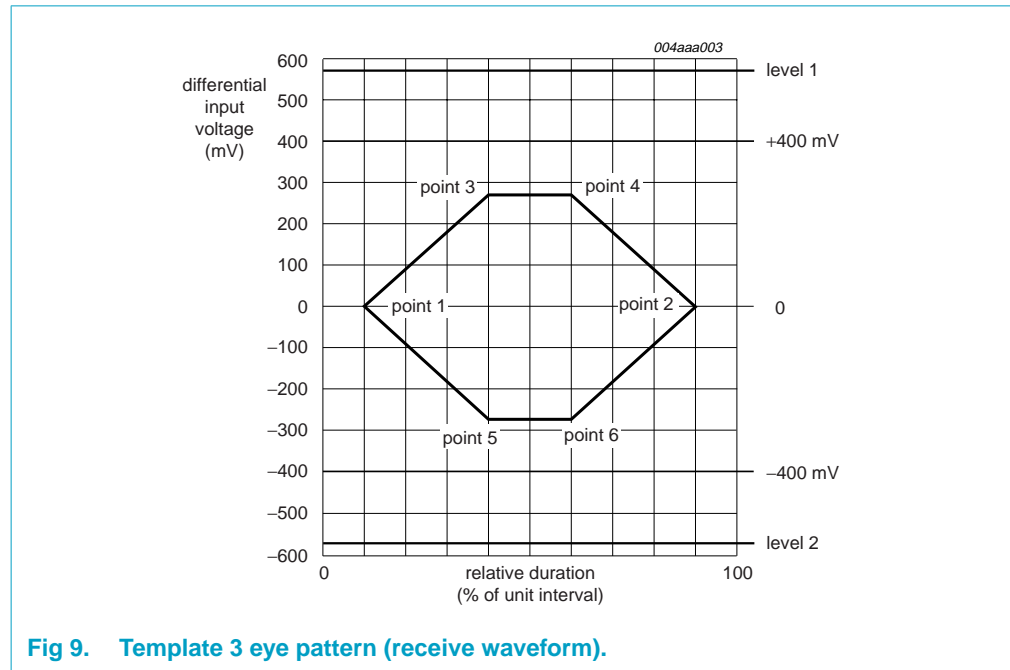

Fig 9. Template 3 eye pattern (receive waveform).
The eye pattern defined in Figure 9 defines the receiver sensitivity requirements for a device with a captive cable (signal applied at test point TP2). The corresponding signal levels and timings are given in Table 79. Timings are given as a percentage of the unit interval (UI), which represents the nominal bit duration T_{PERIOD} for a 480 Mbit/s transmission rate.